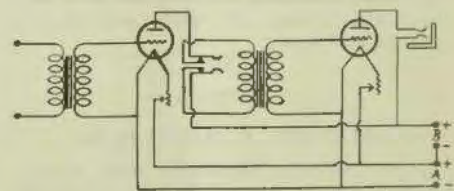

Fig. 2
only other control being the rheostat (R), which regulates the brilliancy of the filament of the valve. It in no way alters the tuning of the receiver, and anything once heard on the detector can be amplified by the valve. This is the circuit to employ for loud speaker operation, two stages of amplification being necessary under average conditions. This circuit is shown in Fig. 2, and is only Fig. 1 with another valve added; it is just as simple to handle.